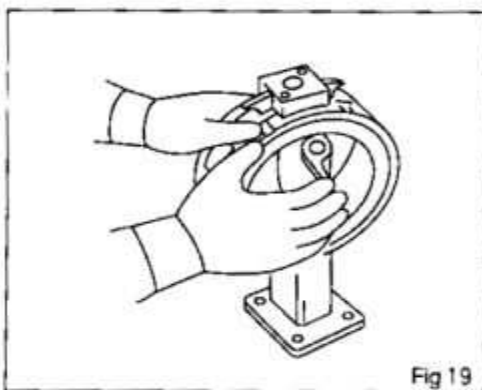

Fig 19
2. Replace parts : Replacement of O-ring(10), gasket(12) etc. used once is recommended even though no damage is found on these components.
4. Insert the disc : Apply silicone oil to the disc(2), then, insert the disc(2) into the rubber-lined valve body. (Fig19)
5. Insert the lower shaft : Center the disc(2) and the upper shaft hole of the body. Insert the bushing(6), and the lower shaft(5) to the shaft of the body. In doing this, apply grease to the seat-ring and the shaft.